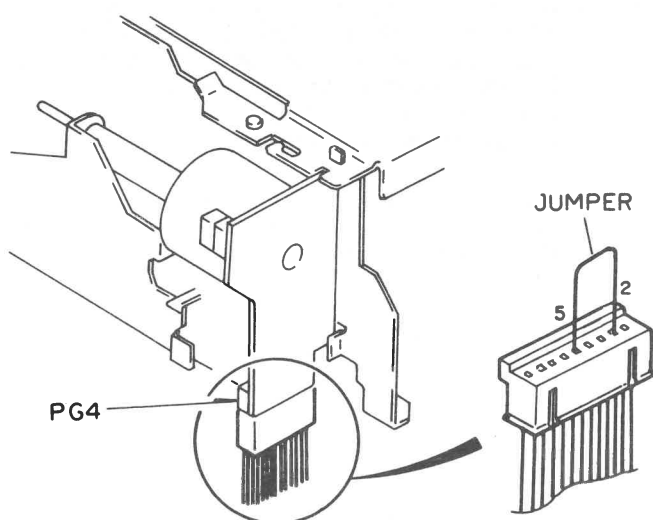

Fig. 1 Operating VCR Without a Cassette Tape
### Operating VCR Without a Cassette (Fig. 1)
1. Operate the VCR without a cassette (Fig. 1 of Mechanical Adjustments).